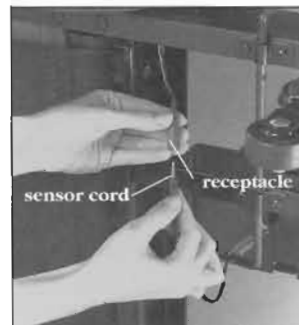

Figure 12
4. Connect the sensor cord to the underside receptacle (Figure 12). The two ends should snap tightly together. Be sure the connection is tight.